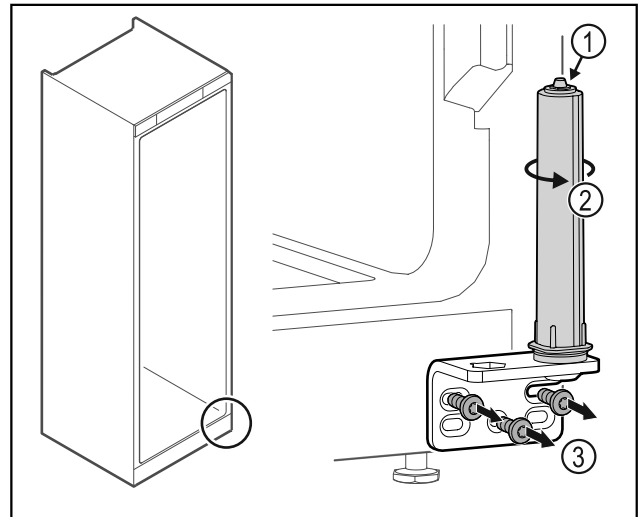

Fig. 50
- Do not disassemble the door closing system Fig. 50 (1).
- Turn the closing system Fig. 50 (2) until it clicks.
- Unscrew the hinge Fig. 50 (3).